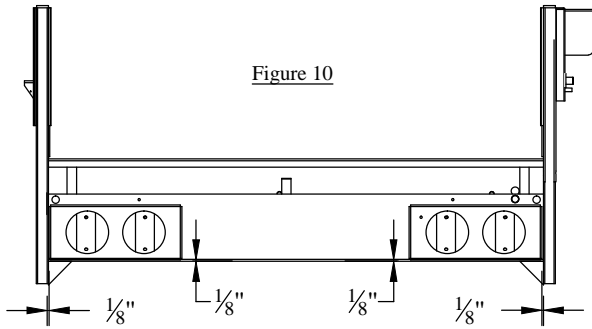

Figure 10
**NOTE:** If this light kit is being installed on an older liftgate without the mounting holes, the light kit must be welded on in the locations shown below (Figure 10).